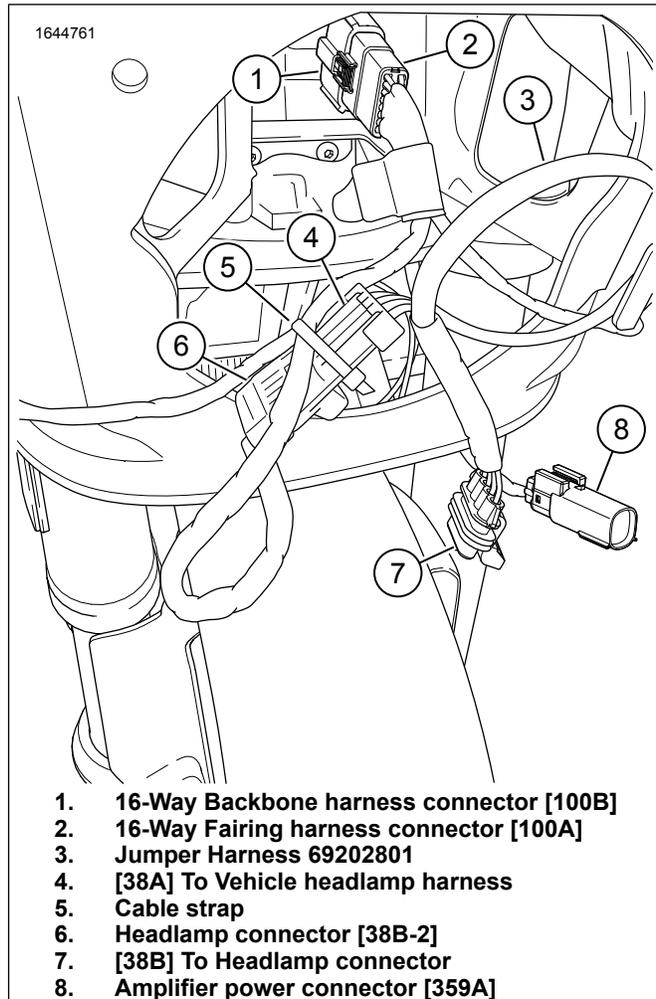
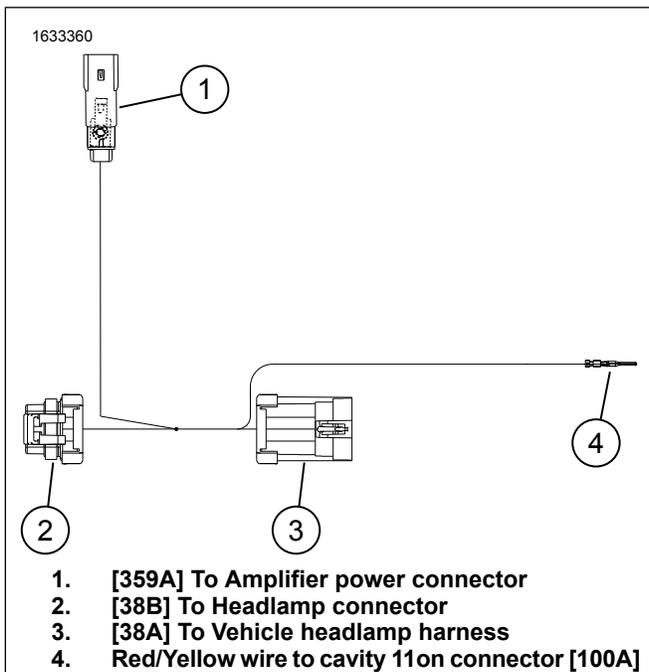

Figure 6. Fairing Harness
Figure 7. Jumper Harness 69202801
1. See Figure 6. Disconnect 16-way fairing harness connector [100A] (2) on fairing mounting bracket.
2. See Figure 7. Install red/yellow wire (4) to cavity 11 on 16-way fairing harness connector [100A]. See Figure 6.
3. See Figure 6. Connect connector [38A] (3) to vehicle harness headlamp connector [38B-2] (6). Secure with cable strap (5).
- a. See Figure 7. Connect connector [38B] to headlamp.